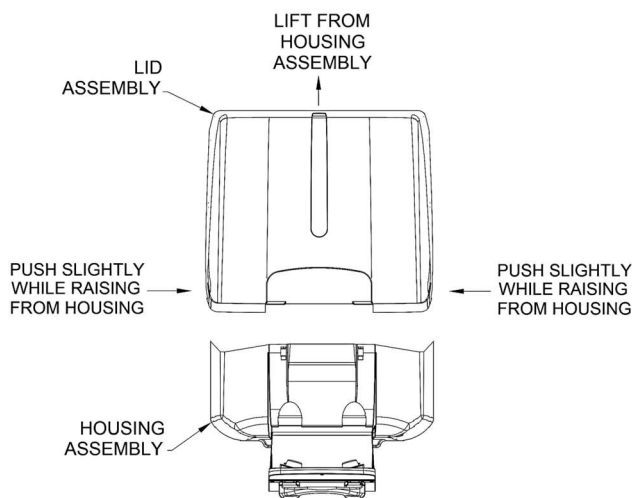

FIGURE 1
- A. To inspect the interior of unit, remove Lid Assembly (**Figure 1**).